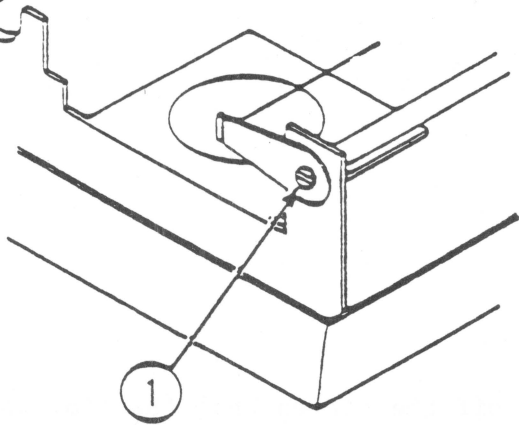

FIGURE 6
11. Loosen the screw on the ribbon wire arm on the left side of the printer (See Figure 6, #1.) Just give it a few turns to ease the tension on the wire.